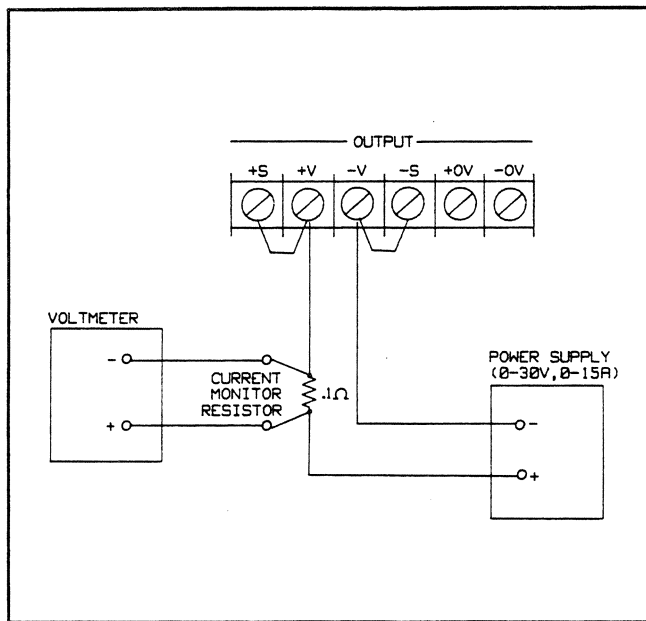

Figure 3-12. Negative Current Limit (- CC) Readback Accuracy
a. Turn off the supply and connect the output to be tested as shown in Figure 3-12.